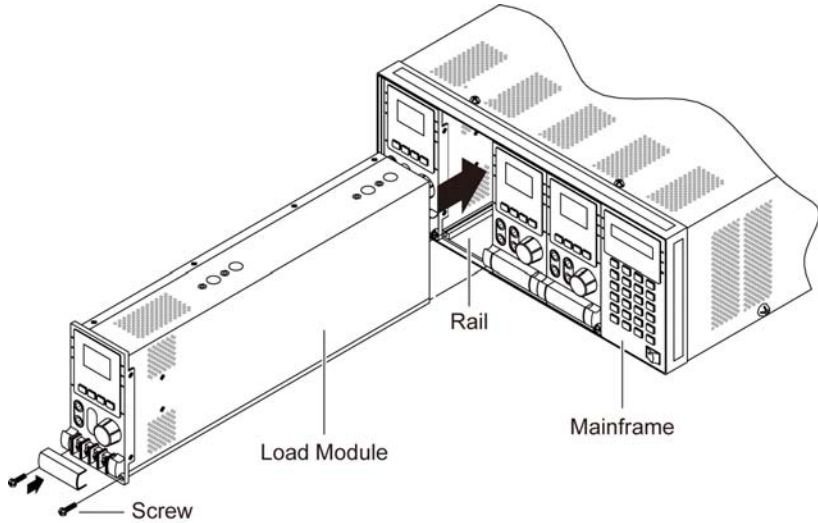

Figure 3-1 Installing Modules in the Electronic Load
3. Start installing the modules in the slot (see Figure 3-1).
5. Lock the module in place with a screwdriver (see Figure 3-1).